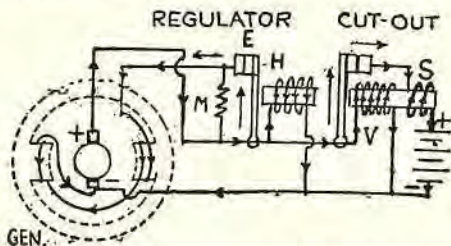

Fig. 5. Shunt-field generator using an electromagnetic voltage regulation.
2. The straight "shunt-field" generator with an electromagnetic type of voltage¹ regulator is shown in Fig. 5: The "shunt-field-circuit" would start with the source of current, which is the (+) main brush of the generator, to the regulator blade (H), to points (E), through the field-coils, to the (-) brush of the generator. If the generator speed is high, the points (E) will open and resistance (M) will be cut into the field-circuit, thus weakening it, through the generator speed producing a high voltage through the voltage winding (H).
¹ You can instantly tell when an electromagnetic regulator controls the voltage, because its winding is finer, and it is placed across the circuit, as at (H) (Fig. 5). When the regulator winding is in series with the circuit, it controls the amperage or current, and is usually of heavier wire.